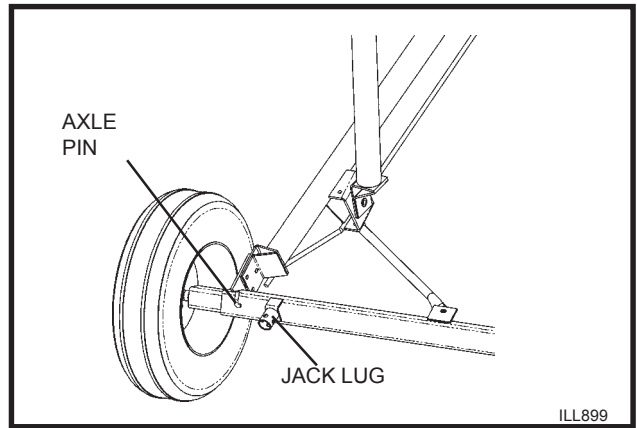

Figure No. 37A
1. Using the jack supplied, insert it into one of the jack lugs located on one end of the axle. See **Figure No. 37A** for jacking point. Jack must be secured to jack lug using pin (attached to jack). One side will be raised at a time. Ensure that the jack is oriented in a vertical position. Turn the crank to start raising the jack. Raise one side of the axle until the tire clears the ground.
2. Remove the axle pin from the axle as seen in the **Figure No. 37A**. Slide the axle outwards (16 inches) until the second set of holes line up. Reinsert the pin and secure with snap pin. Lower the jack.